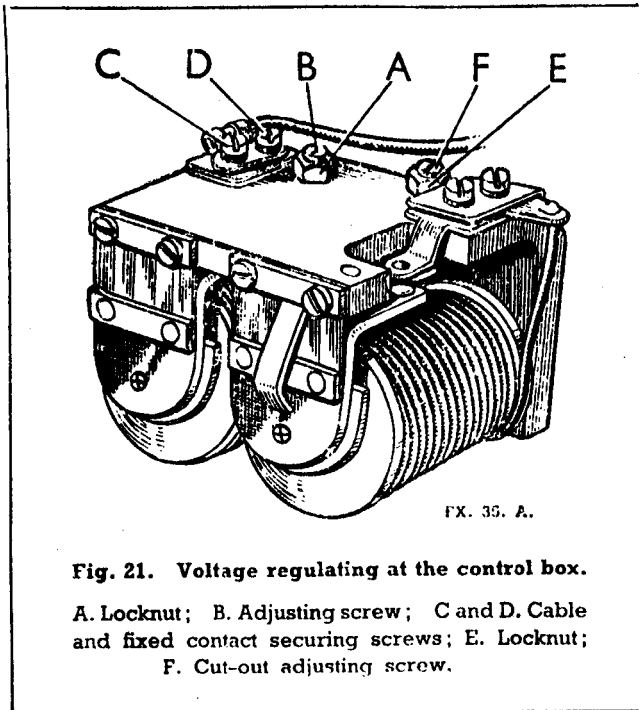

Fig. 21. Voltage regulating at the control box.
Shut off the engine, remove the control box cover, release the locknut (A) fig. 21 holding the adjusting screw (B) and turn the screw in a clockwise direction to raise the setting or in an anti-clockwise direction to lower the setting.
To render the regulator contacts accessible for cleaning, slacken the screws securing the plate carrying the fixed contact. It will be necessary to slacken the upper screw (C) fig. 21, a little more than the lower screw (D) in order that the contact plate may be swung outwards. Clean the contacts by means of a fine carborundum stone or fine emery cloth. Carefully wipe away all traces of dirt or other foreign matter before finally tightening the securing screws.
If the cut-out has become out of adjustment and operates at a voltage outside these limits it must be reset. To make the adjustment, slacken the locknut (E), fig. 21, turn the adjusting screw (F) a fraction of a turn in a clockwise direction to raise the operating voltage or in an anti-clockwise direction to lower the voltage. Tighten the locknut after making the adjustment.